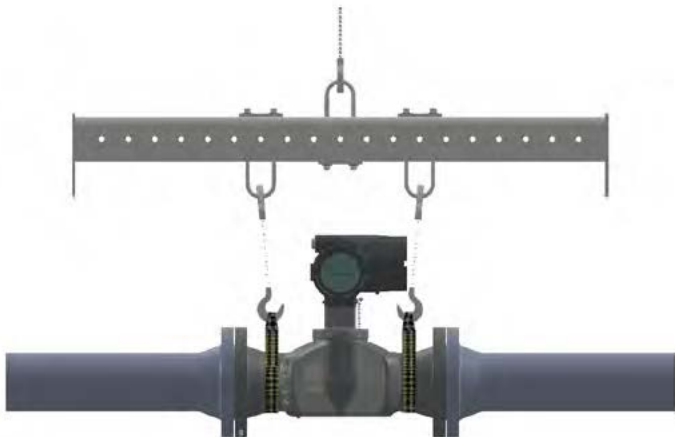

Figure 7: Lifting strap locations
- Make sure the **Sentinel LCT8** is oriented with the flow transmitter in a vertical position at the top, as shown in *Figure 7* below.
<p>WARNING!</p> <p>To avoid possible strain, refer to the Sentinel LCT8 label for the assembly weight, use a properly-rated lifting assembly, and place the lifting straps in the indicated locations (see Figure 7 on page 6). Never stand below any object being lifted!</p>